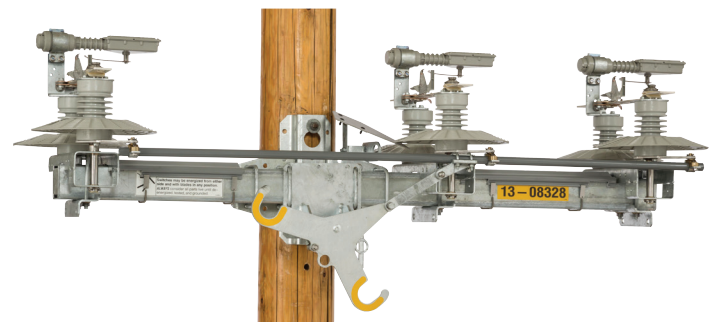

Figure 8. Phase-to-ground wildlife protection.
**Phase-to-ground wildlife protection** covers the bases of the support insulators, providing an excellent barrier between the energized and grounded parts of a switch. These discs snap together around the insulators without tools and fit both Cypoxy and porcelain insulators. The wildlife discs are made of a durable, flexible, UV-stabilized polycarbonate material. Perforations in the discs provide easy visibility of the **Open** or **Closed** position of the switch blades. For steel-base switches, this option includes insulated covers for the switch base and a fiberglass interphase rod to further eliminate the possibility of perching birds or climbing animals making phase-to-grounded part contact. This option is fully retrofittable to installed switches without removing them from the utility pole. See Figure 8.